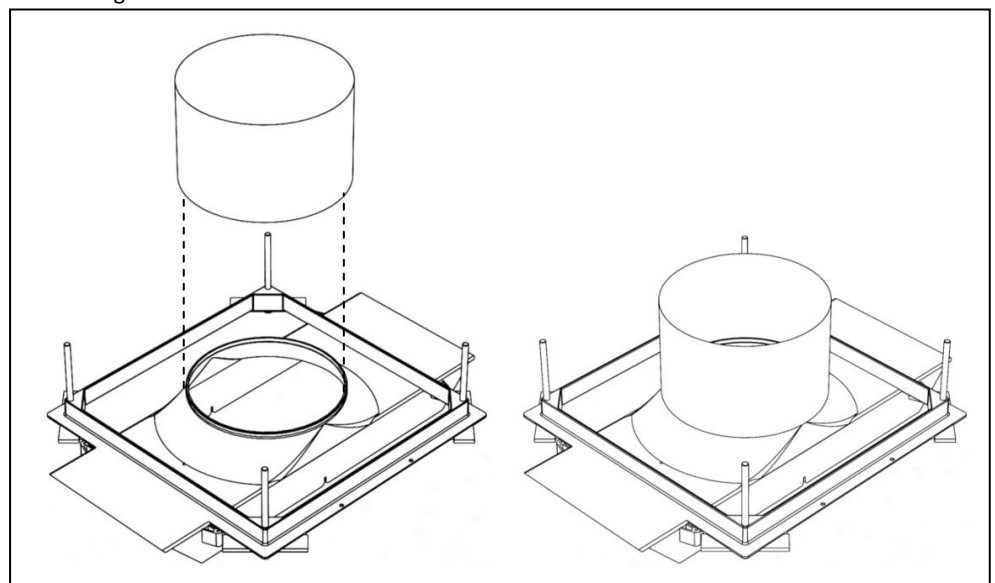

Fig 10: Fit the black plastic duct onto the brace assembly ensuring a tight, sealed fit
- Turn the assembly over and add the black plastic duct work to the top of the assembly with the notch upwards (Fig 10). The notch is shown circled below.